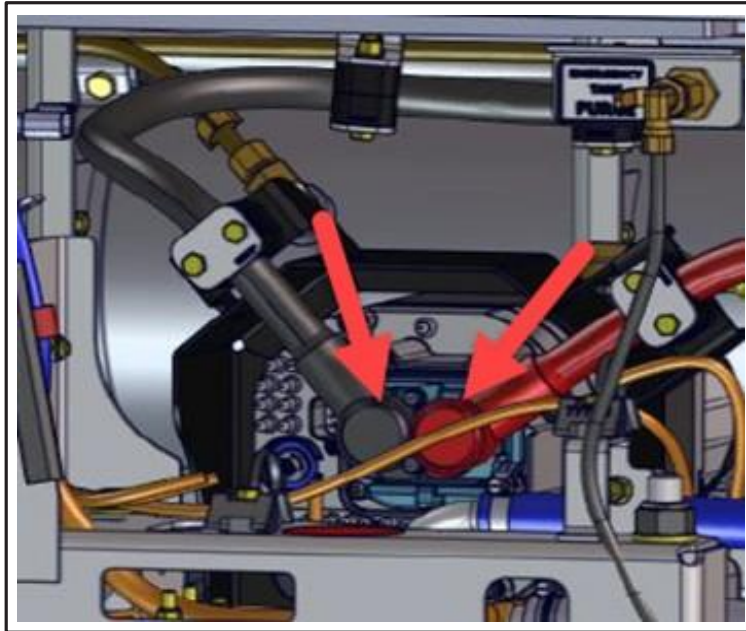

Figure 2 - View of E-Steering Motor Positive and Negative Cables
- 1.5. Disconnect the E-steering motor positive (+) and negative (-) cables (see figure 2).